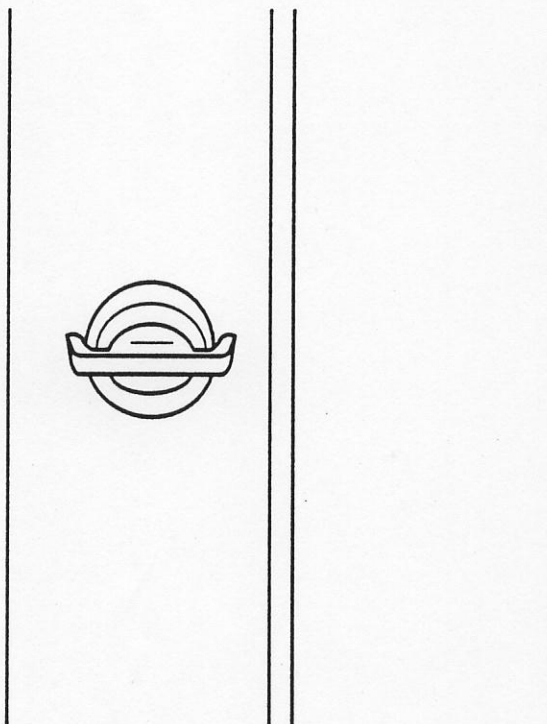

Figure 7-7. Side Panel Latch
1. Turn the latch (Figure 7-7) counterclockwise one full turn to unlatch and swing the panel open.
2. Push the panel to close it, and turn the latch clockwise until it locks. Refer to Figure 7-7.